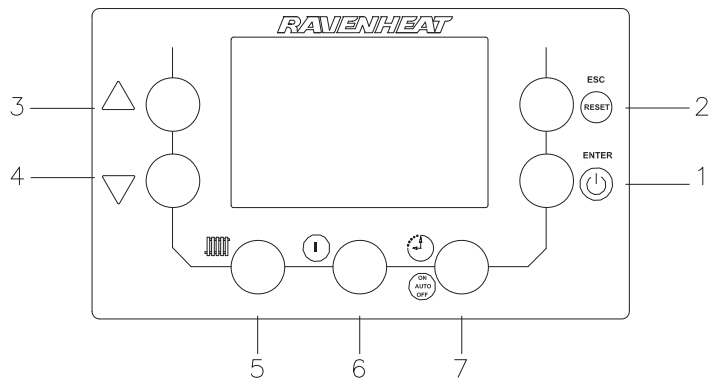

Fig. 1
In the event of an error, the appliance will show a sequence code displayed on the digital display of the control panel (fig. 1). By pressing the "RESET" button it is possible to relight the boiler (see page 52 and 53 for list of error codes).
The boiler is equipped with a large LCD display that indicates the appliance operating status fig. 1).
It is possible to show the boiler value. Press INFO button (item 6 fig. 1) to show the boiler values. Use the arrow up and the arrow down buttons, (item 3 and 4 fig. 1) to show the following info:
1. Press and hold for 5 seconds the TIMER MODE button (item 7 fig. 1). The hour value will flash.
2. Press the up and down arrow buttons (item 3 and 4 fig. 1) to select the current hour (24h). Then press the ENTER button (item 1 fig. 1) to begin to flash on the display confirm after this the minutes will flash.
3. Press the up and down arrow buttons (item 3 and 4 fig. 1) to select the current minutes and then press the ENTER button (item 1 fig. 1) to confirm, after this the day indicator will begin to flash on the display.
4. Press the up and down arrow buttons (item 3 and 4 fig. 1) to select the current day (1=Mon, 2= Tue etc.) and then press the ENTER button to confirm. The time is now set, press ESC button (item 2 fig. 1) to esc time function.
1. Press and hold the timer mode button (item 7 fig. 1).
2. Press and hold for 5 seconds the timer mode button (item 7 fig. 1) again for another 5 seconds.
3. Press the up and down arrows (item 3 and 4 fig. 1) to select the On1 time (first on time) and press the ENTER button (item 2 fig. 1).
5. Press the up and down arrows to set the Off 1 time (first off) and press ENTER button (item 2 fig. 1).
Once the times are set, press the ESC button (item 2 fig. 1) and this will return to the main screen.